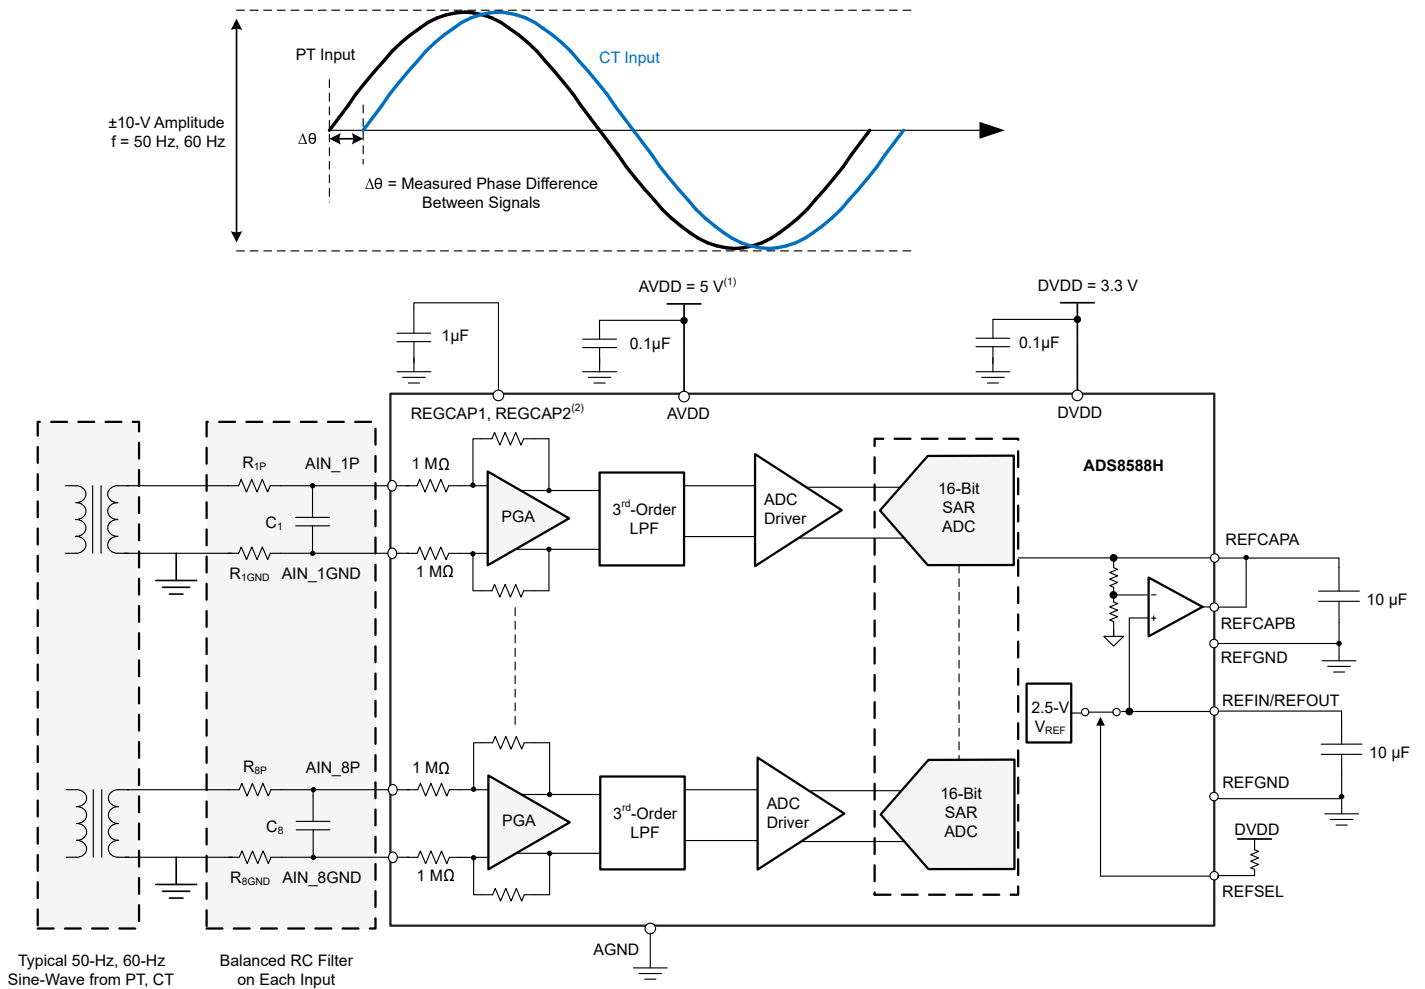

图 8-1. 8-Channel DAQ for Power Automation Using the ADS8588H
This application example involves the measurement of electrical variables in a power system. The accurate measurement of electrical variables in a power grid is extremely critical because this measurement helps determine the operating status and running quality of the grid. Such accurate measurements also help to diagnose potential problems with the power network so that these problems can be resolved quickly without having any significant service impact. The key electrical parameters include amplitude, frequency, and phase measurement of the voltage and current on the power lines. These parameters are important to enable metrology in the power automation system to perform harmonic analysis, power factor calculation, power quality assessment, and so forth. 图 8-1 illustrates a typical application circuit for an 8-channel DAQ application.
- Output range of the potential transformers (elements labeled PT in 图 8-1)
- Output range of the current transformers (elements labeled CT in 图 8-1)
The PT and CT used in the system (图 8-1) have a  $\pm 10\text{-V}$  output range. Although the PT and CT provide isolation from the power system, a series resistor must be placed on the analog input channels. The series resistor helps limit the input current to  $\pm 10\text{ mA}$  if the input voltages exceed  $\pm 15\text{ V}$ . For applications that require protection against overvoltage or fast transient events beyond the specified absolute maximum ratings of the device, an external protection clamp circuit using transient voltage suppressors (TVS) and ESD diodes is recommended.
The primary goal of the data acquisition system illustrated in 图 8-1 is to measure up to 20 harmonics in a 60-Hz power network. Thus, the analog front-end must have sufficient bandwidth to detect signals up to 1260 Hz, as shown in 方程式 1.